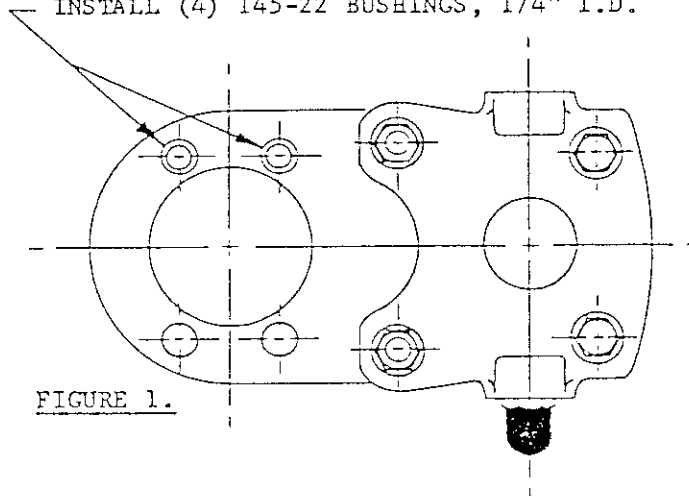

FIGURE 1.
1. Modify torque plate assembly per Figure 1 and install on axle. Retighten the four axle attachment bolts per torque specifications in Cessna Service Manual.